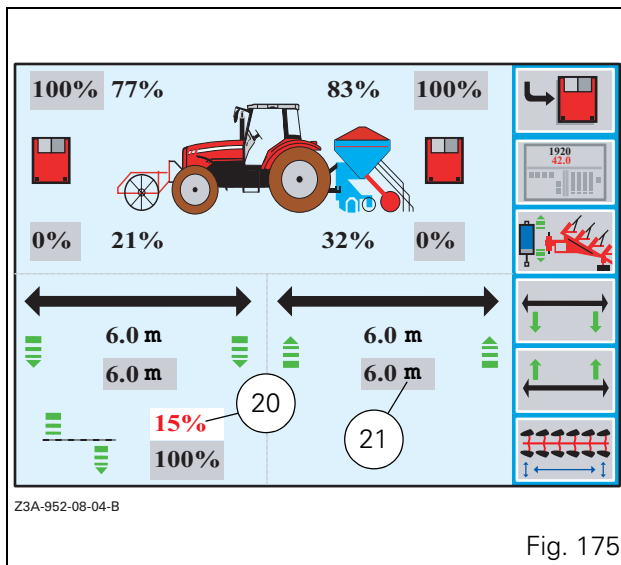
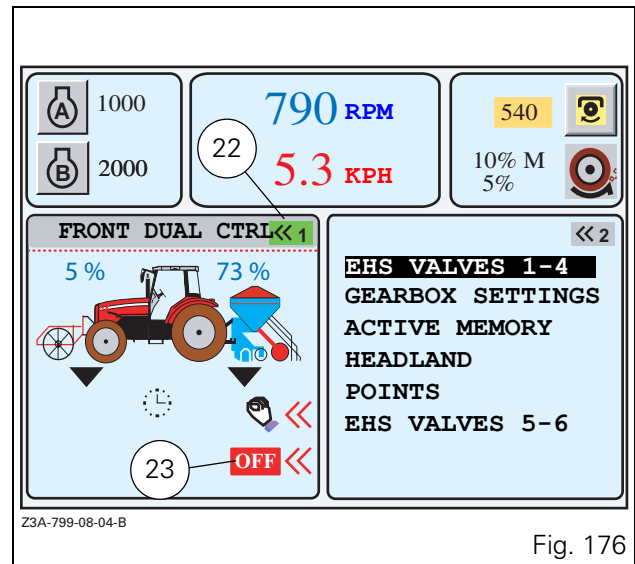
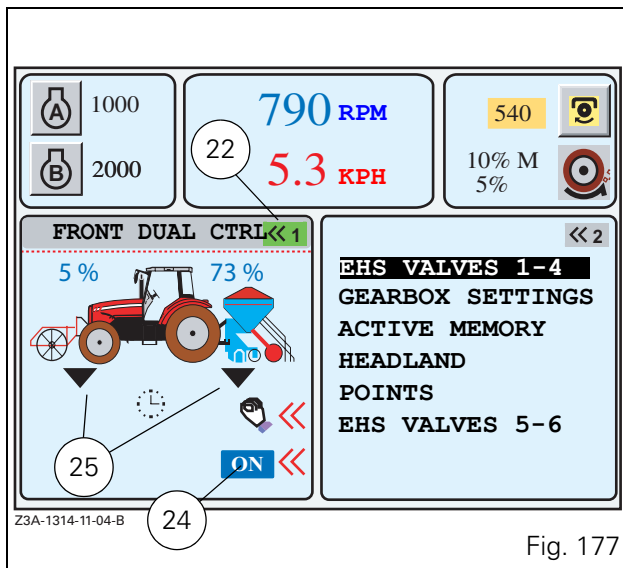

Fig. 175
Fig. 176
Fig. 177
- When the window (Fig. 173) is open, press the key «4. The furrow start length is displayed in red. If this value is suitable, validate by pressing the encoder. The front linkage extra-lowering value (20 Fig. 175) is displayed in red.
- Press the key «₅ when the window (Fig. 175) is open. The furrow end length is displayed in red (21 Fig. 175).
To activate or deactivate this function, press the key «₆ when the window (Fig. 175) is open.
- For this, press the key «₂ when the window (Fig. 175) is open. The window (Fig. 176) is displayed.
- Press the key «₆ when the icon (22 Fig. 176) is green (if this is not the case, first press the key «₁ so the icon (22 Fig. 176) is displayed in green. The DUAL CONTROL function is then active and the symbol (23 Fig. 176) changes from OFF to ON (24 Fig. 177).
NOTE: On b/w screens, the active window is indicated by the icon (22 Fig. 176) in reverse video.
During use, a symbol is displayed under each linkage to indicate their control position (e.g. 25 Fig. 177).
To return to the window (Fig. 175), press the key <<5 when the window (Fig. 177) is open and the icon (22 Fig. 177) is green or in reverse video on b/w screens.